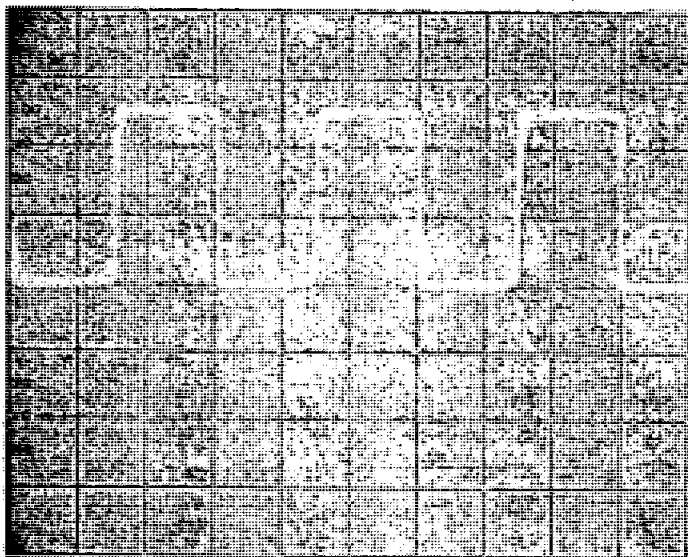

FIGURE 1
1. WITH POWER APPLIED TO THE UNIT CHECK THE OSCILLATOR CLOCK WAVE FORM AND FREQUENCY USING AN OSCILLOSCOPE AT PIN 25 (TP3) OF THE A TO D CONVERTER. FIGURE 1 BELOW SHOWS THE SCOPE TRACE FOR THIS TEST POINT. THE CLOCK FREQUENCY SHOULD BE 68 KHz \pm 10%.